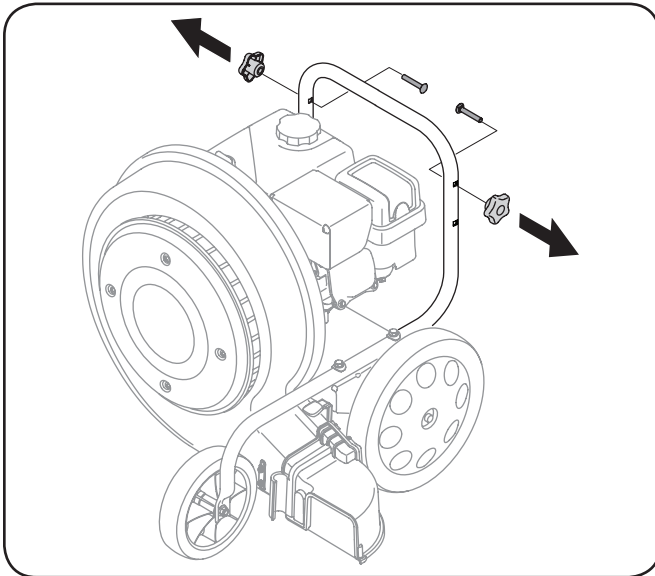

Figure 3-1
1. Remove the carriage screws and star knobs from the upper holes in the lower handle. See Figure 3-1.